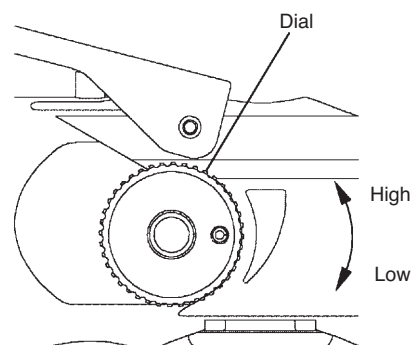

Fig.7
- When the dial is turned to the furthest counterclockwise position, the tool reaches the maximum rotation speed. Adjust the rotation speed according to the chamfering work. (Fig.7)